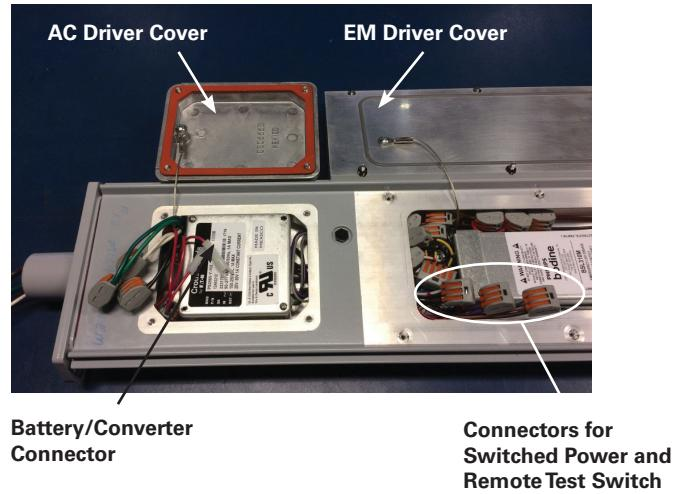

Figure 13
1. Open AC driver cover by loosening the four (4) #10-32 x 0.75" stainless steel cover screws (see Figure 13). All components in the fixture are pre-wired so only line in, neutral and ground need to be connected in the fixture to the lead wires (or terminals) per the wiring diagrams (see Figures 16 and 17) using methods that comply with all applicable codes. Terminate the equipment grounding conductor (green) first, the common (white) next, and finally, the line voltage (black) last. Tighten all electrical connections. **NOTE:** Standard openings are 3/4" NPT.
3. If no through feed (TF) or switch connections, proceed to Step 9.
4. For the TF suffix, use factory supplied fish line to pull through wire conductors for wiring to driver or to daisy chain multiple fixtures (maximum of five (5)). Refer to schematic for wiring. Only four (4) conductors maximum are allowed through the hub closest to the driver and four (4) conductors maximum are allowed through the hub farthest from the driver.
6. To connect an additional switched power source, remove the EM driver cover by loosening the ten (10) #8-32 x 0.50" stainless steel cover screws (see Figure 13). Locate the connector with the EM driver black and red/white leads. Disconnect the red/white lead and reconnect to a switched line input per the wiring diagrams using methods that comply with all applicable codes.
7. To connect a remote test switch, remove the EM driver cover as described in Step 8. Locate the two (2) connectors with the EM driver purple and brown leads. Connect the wires to the test switch using the 3-conductor connectors supplied.
8. Reinstall the EM driver cover and tighten all ten (10) cover mounting screws to 20 in.-lbs. (2.3 N-m).
10. Reinstall the AC driver cover and tighten all four (4) cover mounting screws to 32 in.-lbs. (3.6 N-m).